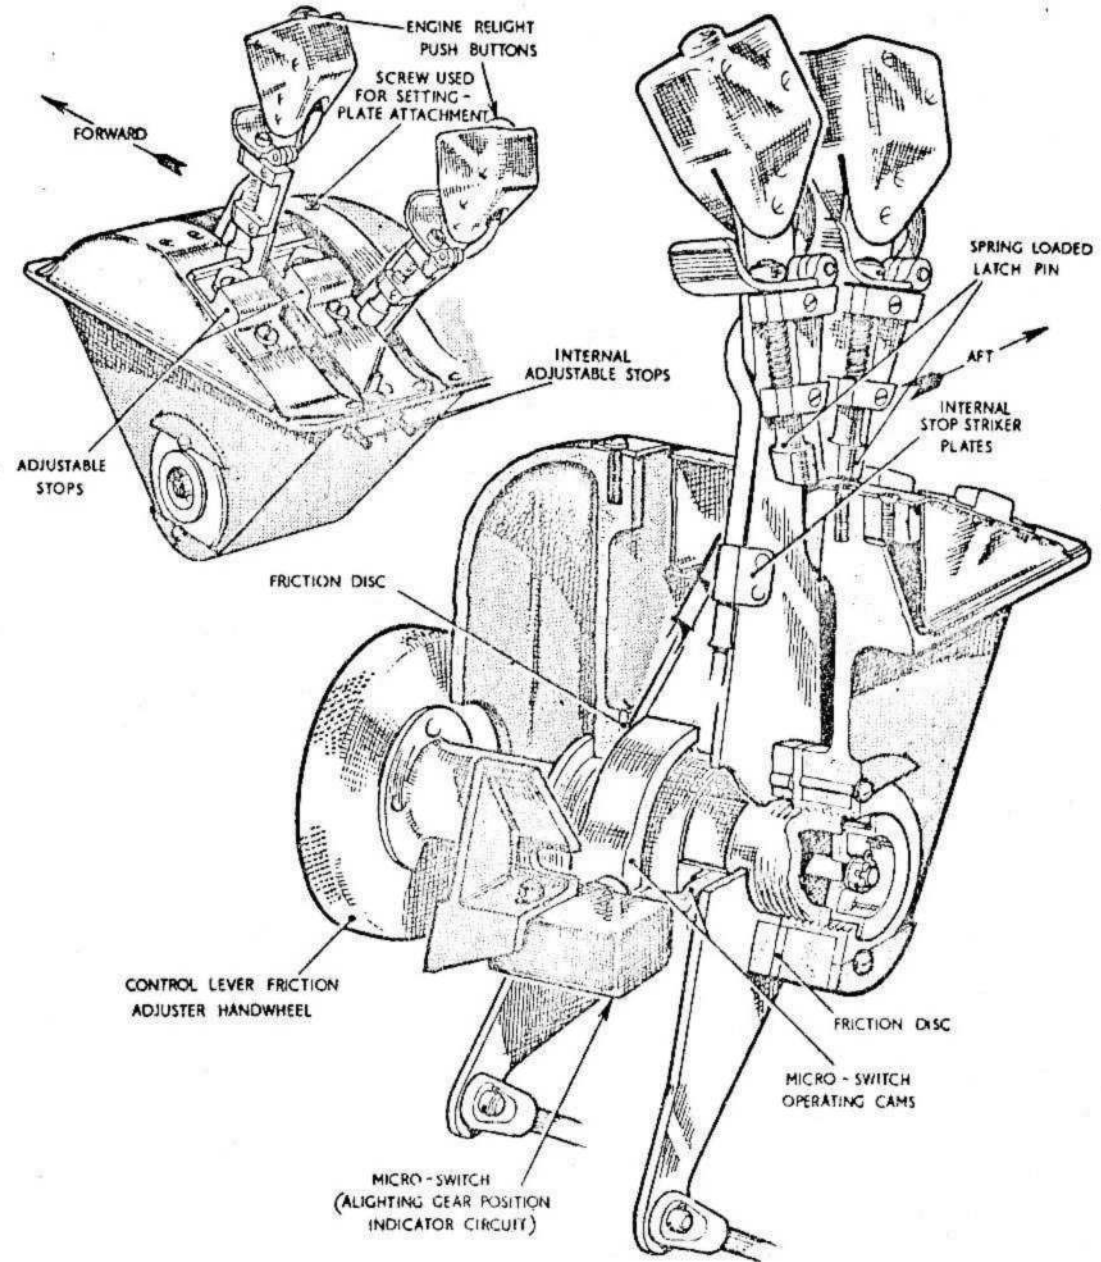

Fig.4 Throttle control box
*Throttle and H.P. cock controls (fig. 4 and 6)*
14. Adjustable stops, mounted on the aft end of the control box cover, and a spring-loaded latch pin mounted on the forward side of each lever, obviate inadvertent opening or closing of the shut-off cock. To open the shut-off cock, the latch (fig. 4) must be raised while the lever is pushed forward past the stop and reaches the shut-off cock OPEN position; in this position the lever rests against the stop, and sufficient fuel passes through the throttle valve to obtain idling rev/min. Conversely, to close the shut-off cock the latch must be raised while the control lever is pulled aft past the stop. Adjustable stops are also provided inside the control box at the H.P. cock (shut-off cock) OFF and throttle fully OPEN positions.